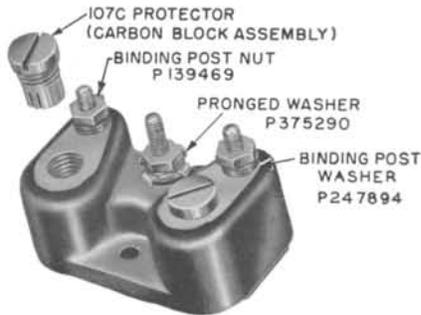
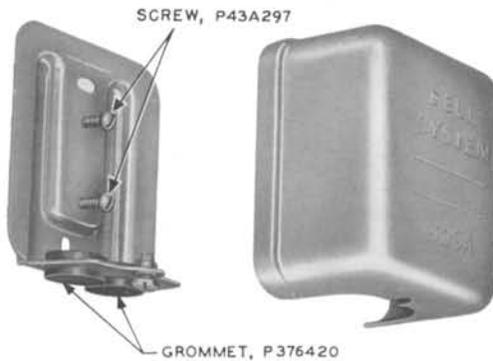

FIG. 1—111A PROTECTOR
FIG. 2—305A PROTECTOR MOUNTING
3.01 The 111A fuseless protector shown in Fig. 1 should be used with the 305A protector mounting (see Fig. 2) when installed outdoors. The protector, complete with mounting, is coded 1305A.